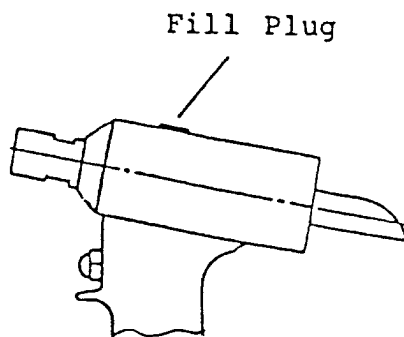

Figure 2. Fill Plug Location
3. Remove fill plug from head of tool -- see Figure 2.
Refer to Figures 2 and 3.